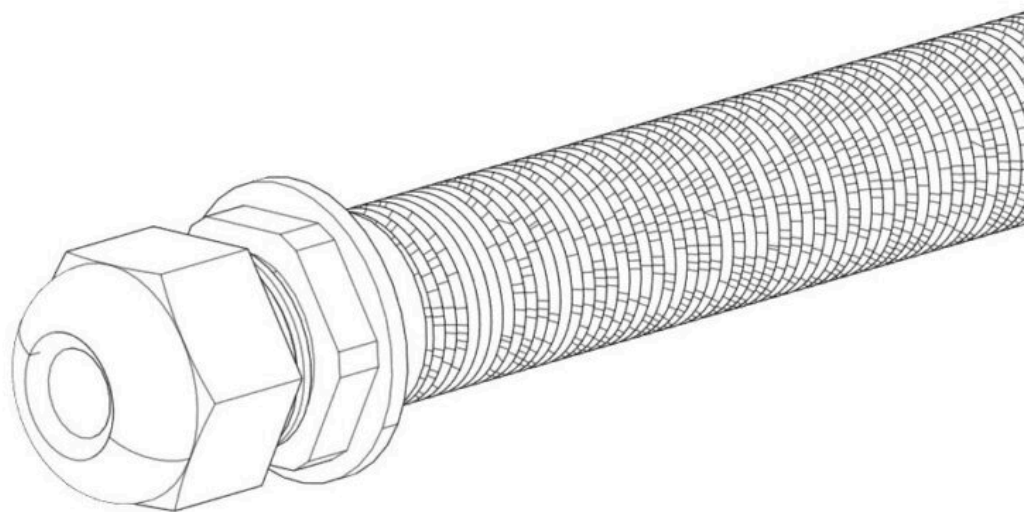

Figure 70 – Cable Gland Installation Inboard of Transom
9. Mount the Cable Guide Support in line with the natural path of the Actuator Cable to the transom. Pre-drill two (2) mounting screw pilot holes using a 3/32 in. (2.4 mm) bit. Inject sealant into the holes. Insert two (2) No. 8 x 0.75 in. screws and tighten with a Phillips head screwdriver.
11. Tighten the Cable Gland around the Actuator Cable on the inboard side of the transom (See Figure 70 – Cable Gland Installation Inboard of Transom). The Cable Gland should be snug to prevent leaking, but do not overtighten. If the Cable Gland was not selected, apply marine adhesive sealant to the cable sheath and cable hole to seal the penetration from outside the hull. **Note:** The Cable Gland must have the rubber grommet in place to properly seal. The outside of the cable must be clean of debris, dust, adhesives, etc. to properly seal. Do not allow acetone to come in contact with the Controller Cable Gland Sealing Nut.
12. Place the Outer Cable Guide over the Inner Cable Guide. Mark the location of the six (6) mounting screw holes. Drill 3/32 (2.4 mm) pilot holes in these six (6) locations.
13. Inject sealant into the pilot holes for the mounting screws for the Outer Cable Guide. Using a Phillips head screwdriver, install the six (6) mounting screws into the hull and hand-tighten.